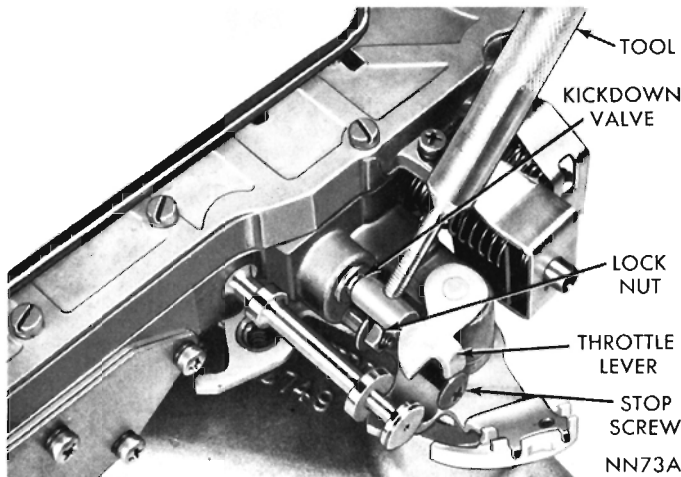

Fig. 24—Throttle Pressure Adjustment
- (1) Remove valve body assembly from transmission to perform adjustment.
- (2) Loosen throttle lever stop screw lock nut and back off approximately five turns (Fig. 24).
- (3) Insert gauge pin of Tool C-3763 between the throttle lever cam and kickdown valve.
- (4) By pushing in on tool, compress kickdown valve against its spring so throttle valve is completely bottomed inside the valve body.
- (5) As force is being exerted to compress spring, tighten throttle lever stop screw finger tight against throttle lever tang with throttle lever cam touching tool and the throttle valve bottomed. **Be sure adjustment is made with spring fully compressed and valve bottomed in the valve body.**
- (6) Remove tool and tighten stop screw lock nut securely.